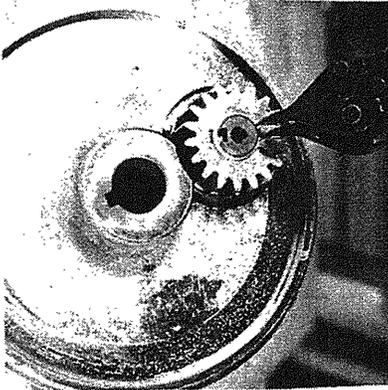

Fig. 2-5
- B. Remove the retaining ring (Fig. 2-5).